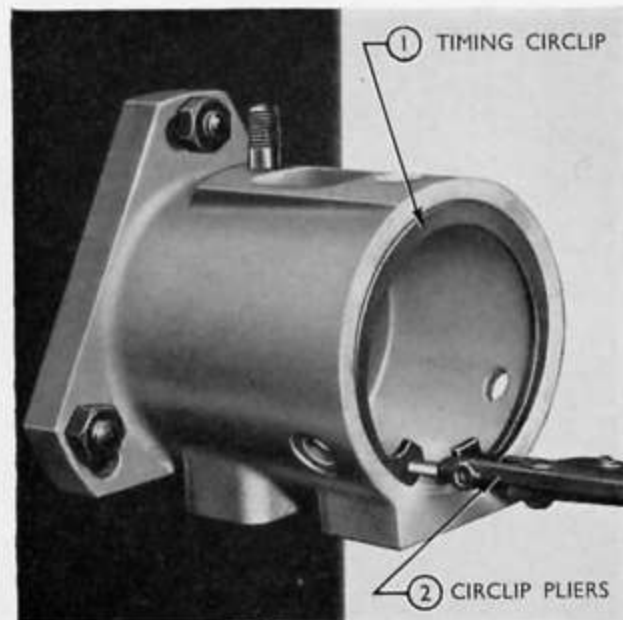

Fig. 41
5. Compress the timing circlip with circlip pliers (see Fig. 41) and seat it against the shoulder in the